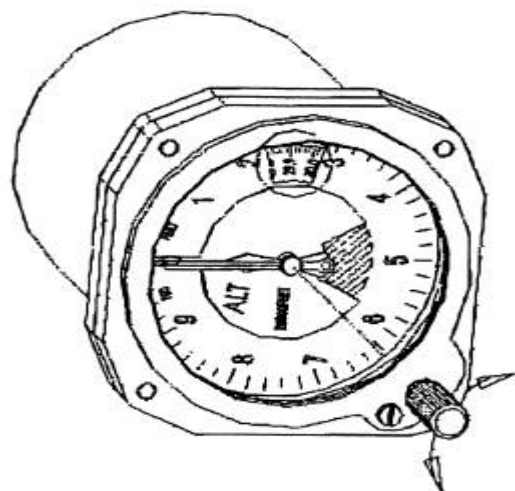

Figure 5
4. Hold the altimeter in your hand and turn 90° to the left (Figure 5). Pat the back area to have part no. 1 separate from the main gear.